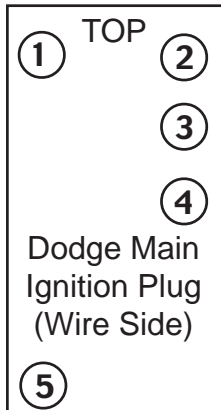

FIGURE 4
- ⇒ Refer to FIG. 4 to identify wires in main ignition plug that are required to hook up Diesel Turbo Lifesaver.
- ⇒ Find BLUE wire (2003 trucks) or PINK / GREEN wire (2004 –2005 trucks) in main ignition plug (See Fig. 4).
- ⇒ Find BLUE wire (2003 trucks) or PINK / GREEN wire (2004 – 2005 trucks) in main ignition plug (See FIG. 4).
Figure Reference: Figure 4
- ⇒ Find Dodge's GREEN wire (2003 trucks) or BLUE wire (2004 –2005 trucks) in main ignition plug (Position #1 in FIG. 4). Use supplied yellow Scotchlok to connect GREEN wire of DTLS to wire of vehicle.
- ⇒ Find Dodge's PINK / BLACK wire (2003 trucks) or RED wire (2004 –2005 trucks) in main ignition plug (Position #2 in FIG. 4). Use supplied yellow Scotchlok to connect SOLID RED wire of DTLS to wire of vehicle.
- ⇒ Find Dodge's RED / WHITE wire (2003 trucks) or PINK / WHITE wire (04 –05 trucks) in main ignition plug (Position #3 in FIG. 4). Use supplied blue Scotchlok to connect RED / WHITE BANDS wire of DTLS to wire of vehicle.
- ⇒ **2004 – 2005 vehicles only:** Find Dodge's PINK / YELLOW wire in main ignition plug (Position #5 in FIG. 4). Use supplied blue Scotchlok to connect SOLID YELLOW wire of DTLS to wire of vehicle.